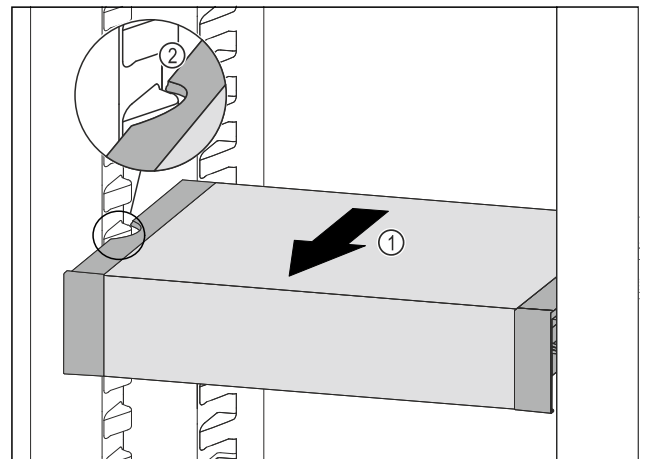

Fig. 101
- Pull VarioSafe forwards *Fig. 101 (1)* until the recesses in the side of the VarioSafe are at the level of the support rib in the fridge section. *Fig. 101 (2)*